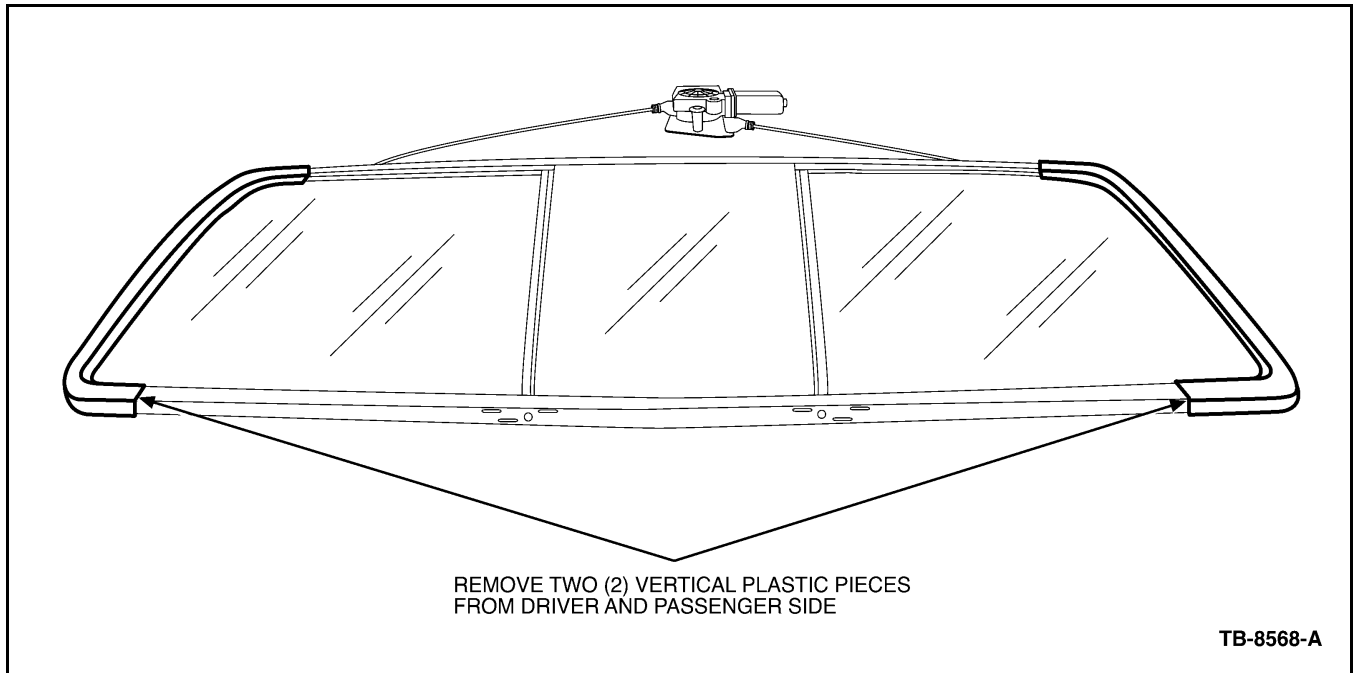

Figure 4 - Article 06-15-5
11. Pull driver and passenger side plastic vertical portion of window frame from upper and lower rails (Figure 4).